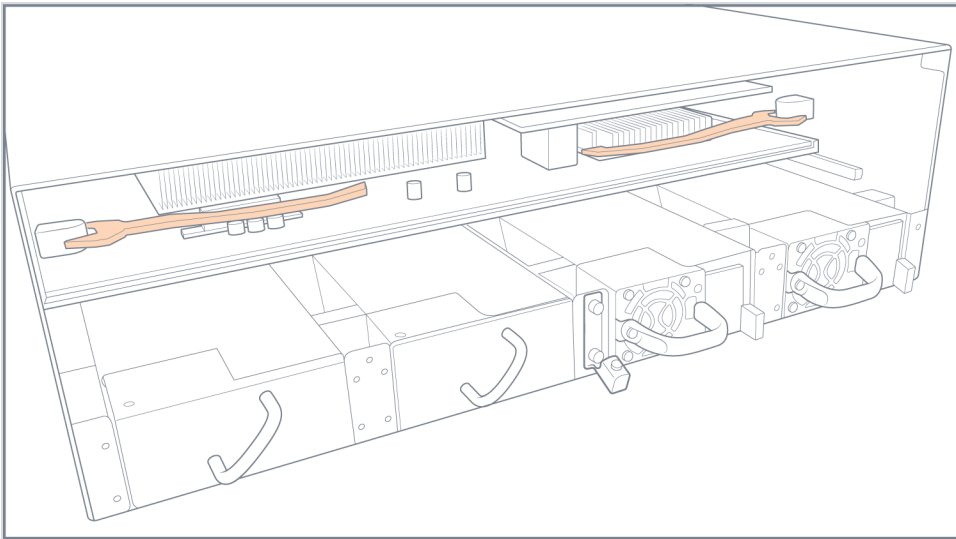

Figure 17: Control Card Location
3. Remove the fan tray as described in Removing a Fan Tray on page 79. The control card is located behind the fan tray as shown in Figure 17: Control Card Location on page 84.